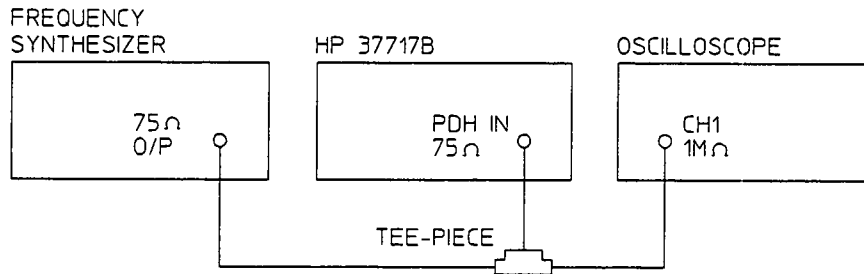

Figure 3-33. PDH Receiver Monitor Levels Test Setup
2. Connect up the equipment as shown in Figure 3-33.